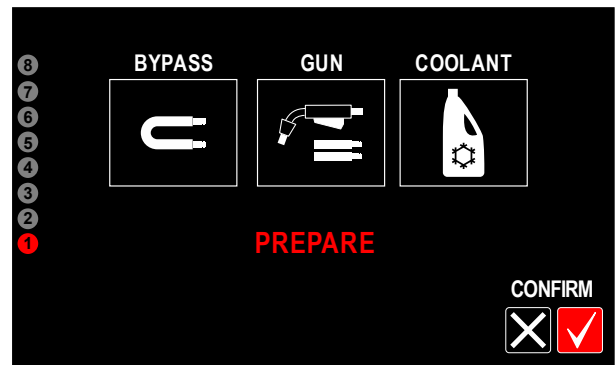
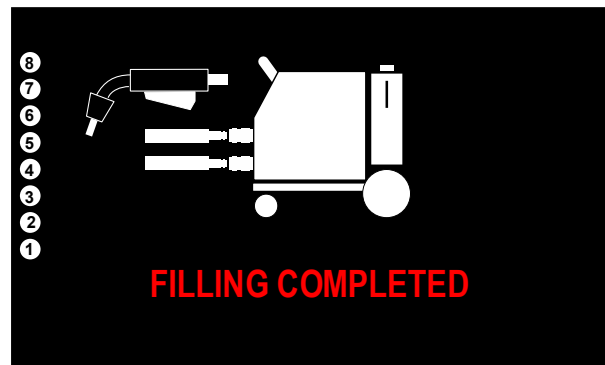
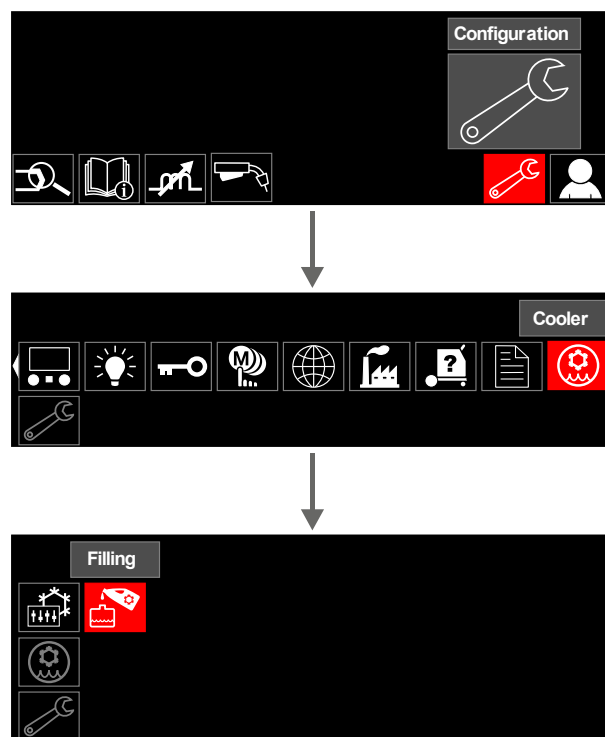

Figure 14
Figure 22
Figure 23
- When the **COOL ARC® 26** was connected for a first time welding source automatically starts the filling procedure (Figure 14). Remove the reservoir cap to prevent generating a partial vacuum.
- If the filling process is successful (Figure 22), the cooler switches to AUTO mode.
If different **COOL ARC® 26** is connected, filling procedure should start manually. First follow as shown Figure 23 and then repeat steps shown on Figure 14 to Figure 22.